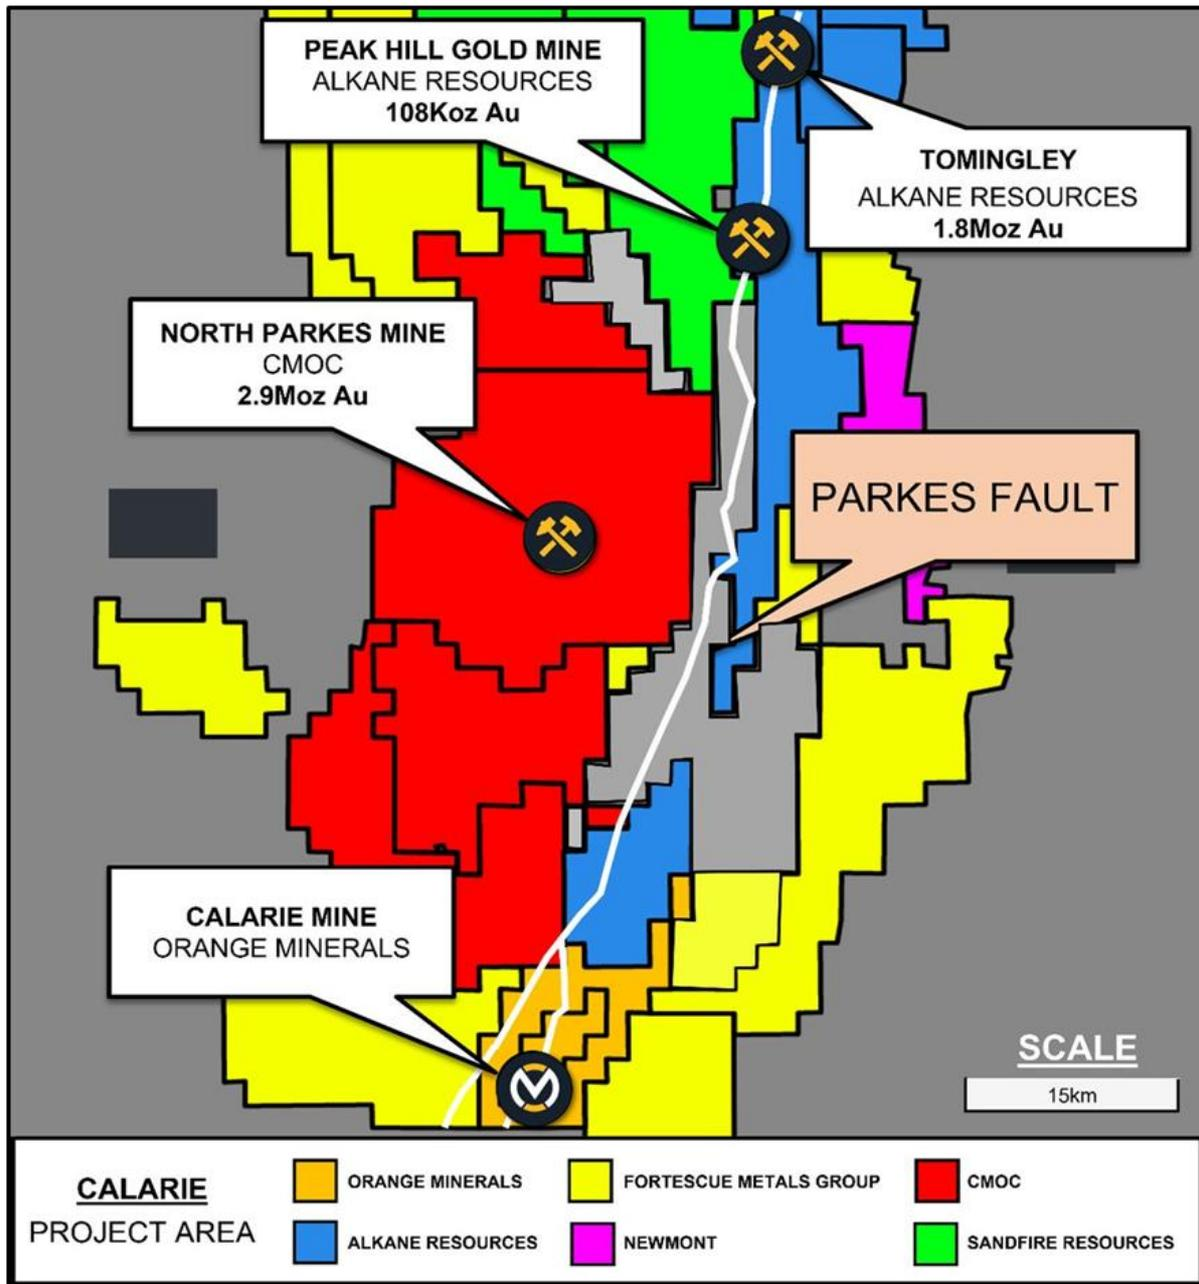

Figure 1 – Map of Calarie- Project Region.
- Calarie is a mining lease (ML739) and two exploration licences (EL8555, EL8580) that form a 70% earn-in joint venture with Godolphin Resources Limited (see Figure 1).